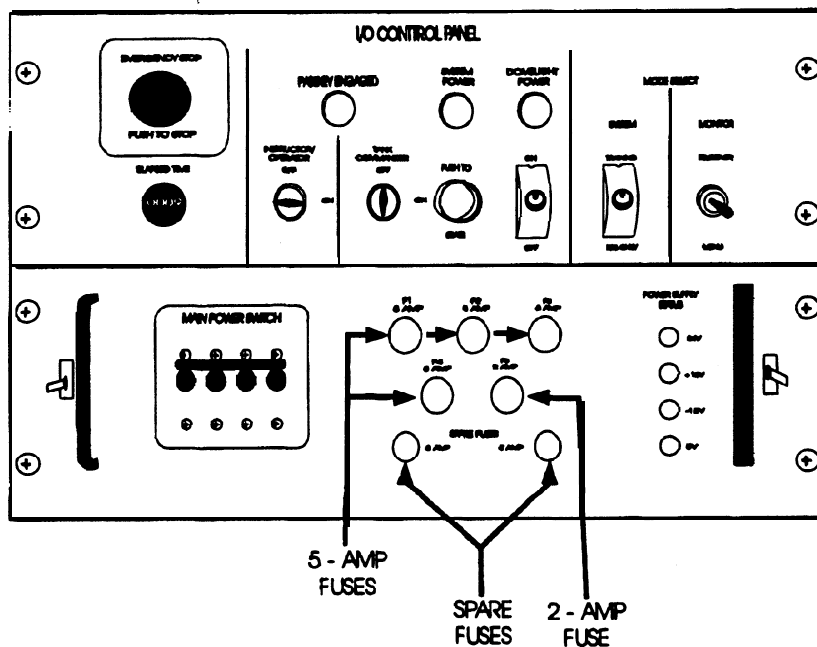

Figure 3-23. I/O Control Panel (TD 17/162A) Fuses
- (1) Turn the printer offline.
- (2) Open the top cover and slide the printhead to the center of the platen.
- (3) Remove the new cassette from the packaging and position it with the ribbon knob aligned over the post protruding from the left end of the floor of the printer opening.
- (4) Lower the ribbon cassette into place and snap it down.
- (5) Slide the ribbon down into position between the printhead and the metal ribbon mask. Do not force the ribbon between the ribbon mask and the ribbon guide. See printer operators manual.
- (6) Turn the ribbon knob clockwise, advancing the ribbon until it is taut.
- (7) Move the printhead to ensure the printhead moves smoothly without snagging the ribbon.
- d. If necessary, change the I/O Control Panel fuses, shown in Figure 3-23 and 3-23a, as follows: